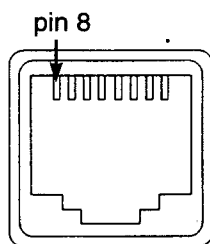

Figure 5-1. J2 Programming Connector, Front View
- Using a DVM or oscilloscope, adjust the **Audio** potentiometer on the ZR320 controller until 470 mV rms (1.33V p-p) is present at pin 8 of the ZR320 controller programming connector J2 on the front of the ZR320 controller (refer to Figure 5-1), or on either pin of JP5 inside the ZR320 controller.